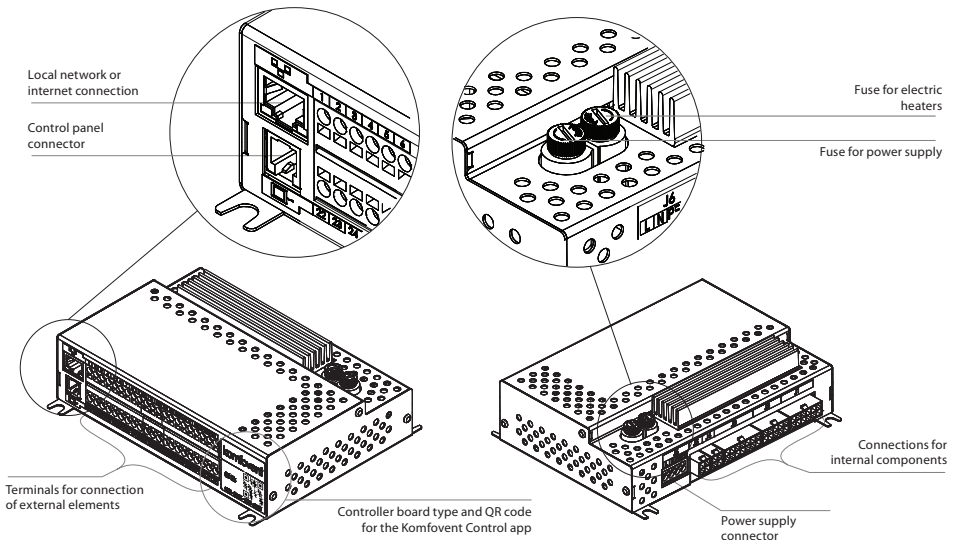

Fig. 13. C6M controller main board
- The terminal numbering shown here only applies for C6M controller board. Before connecting the external elements, check the board type on the sticker in the front of the controller (see Fig. 13).
It is advisable to run the control panel cable in such a way that it does not go near the power supply wires or high voltage electrical equipment (electrical inlet cabinets, electric water heating boiler, air conditioning unit, etc.). The cable can be passed through the holes in the back or bottom of the control panel (follow the installation instructions supplied with the control panel). The wire to C6M controller board is connected to a dedicated slot (RJ9 connector; see Fig. 13) or to the terminals for external connections.
The unit can be controlled not only by the control panel, but also by computer or smart phone. In such cases, the air handling unit must be connected to a local computer network or to the Internet. The unit is controlled by a computer using a web browser, or a smartphone with a Komfovent Control app. The air handling unit is connected to the computer network with a CAT5 type cable (RJ45 connector; see Fig. 13). The total cable length between the unit and the network router must not exceed 100 m.
- The easiest way to manage your unit over the internet is to use a smartphone with the Komfovent Control app. Launch the app on your phone (the phone must have Internet access). When you connect for the first time, the app will ask you to scan the QR code at the front of the controller board (see Fig. 13). When you scan the code, the app will automatically establish the connection to the unit (for more information on the Komfovent Control app, see "Domekt User Guide").